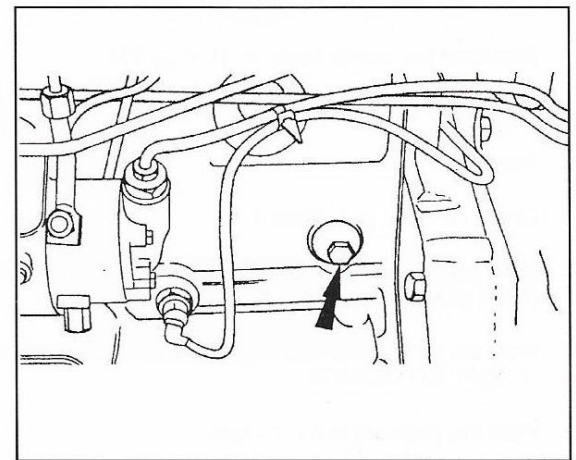

Fig. 85
3. Remove the drain plug from the cylinder block (Fig. 85). Make sure that the drain points DO NOT become blocked during draining.